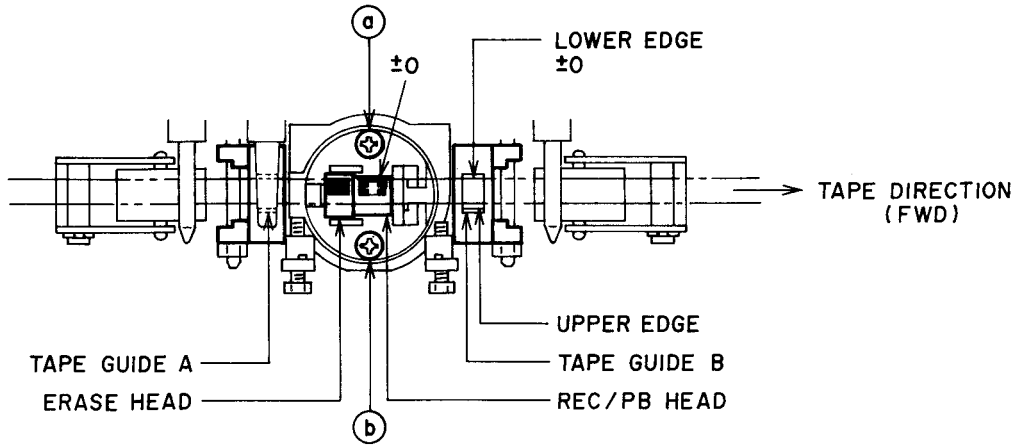

Fig. 8-1
(Refer to Figs. 8-1, 8-2 & 8-4)
- 5) When the head replacement is necessary, loosen only the screws (a) & (b) in Fig. 8-1 for easy replacement.